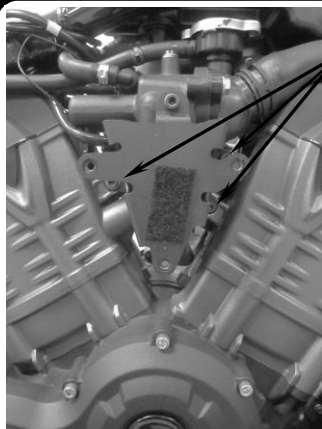

FIGURE 3
3. To gain access to front cylinder fuel injector: Remove cover on right side between cylinders. Remove (3) M6 cap screws securing water thermostat housing bracket to engine cylinders, see Figure 3. Pull bracket with thermostat outward and down, be sure to pull radiator hose over engine front cylinder head in the direction of outward and downward at the same time, see Figure 4.
12. Reroute fuel supply hose under right frame rail and into position for fuel tank. Reconnect two vent hoses previously disconnected from T fitting. See Figure 4. Reposition water thermostat and mount bracket into position, use 1 of 3 screws on rear positions to attach **ground wire** from Fi2000, tighten to stock torque, see Figure 3.